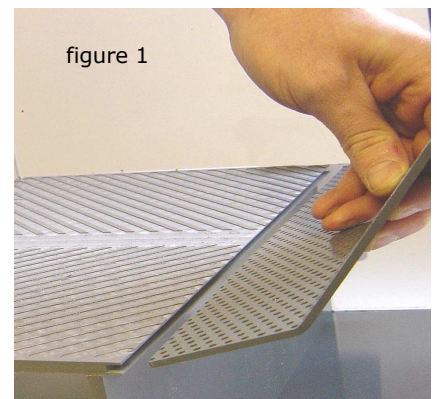

figure 1
4. Fit perforated Sump Guard to process chamber. It slots into a groove just beneath the process shelf. (see figure 1)